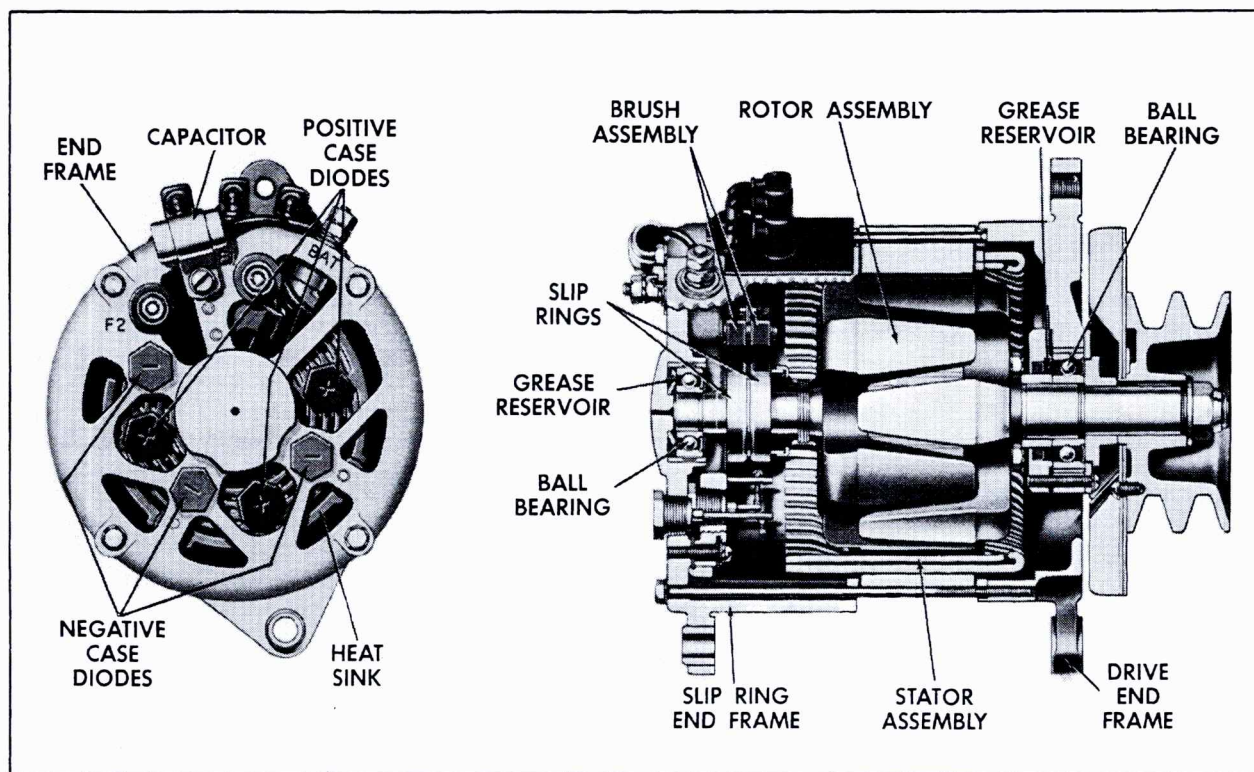

Fig. 6-40 Generator Cut-Away View
a. Disassembly (Fig. 6-40)
1. Remove four through bolts securing drive end frame to slip ring end frame, Fig. 6-40.